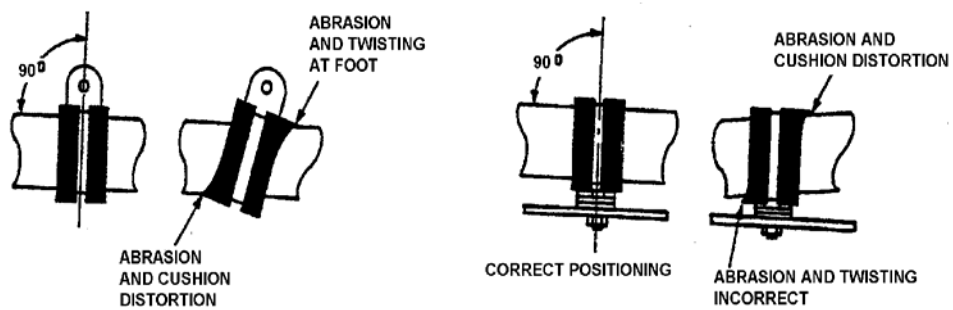

Figure 7. Mounting Clamps
26. Mounting Clamps. The position of the clamp, relative to the tube, must be at 90 degrees at installation to prevent built-in preload and subsequent clamp distortion and failure (Figure 7). Clamp misalignment will also cause abrasion or tearing of the cushion material, resulting in a metal-to-metal condition, and a far greater abrasion problem. In some instances, due to flexure or line surge, clamp swivel is experienced, causing the distortion. Substitute a clamp with 2-hole mounting to eliminate this condition.